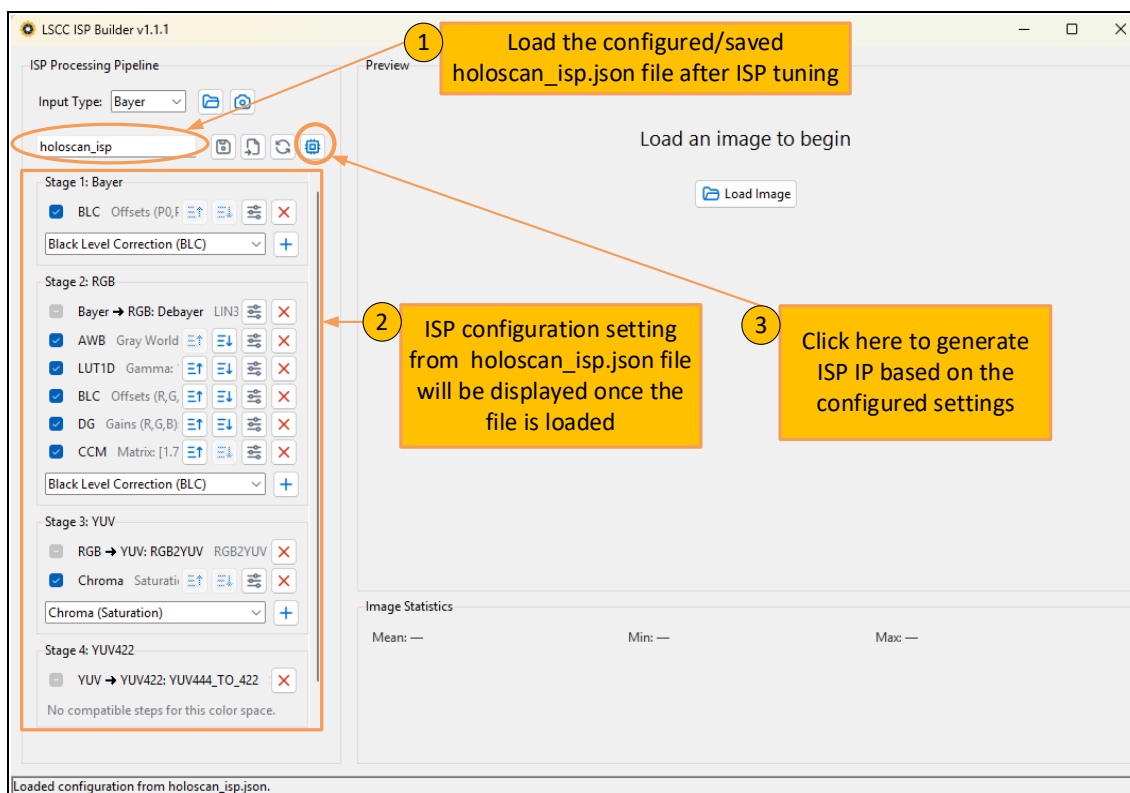

Figure 4.6. LSCC ISP Builder GUI preview loading the configured JSON file.
2. When the GUI opens, load the configured JSON file (holoscan\_isp.json). The configured ISP settings are displayed in the GUI, as shown in Figure 4.6.